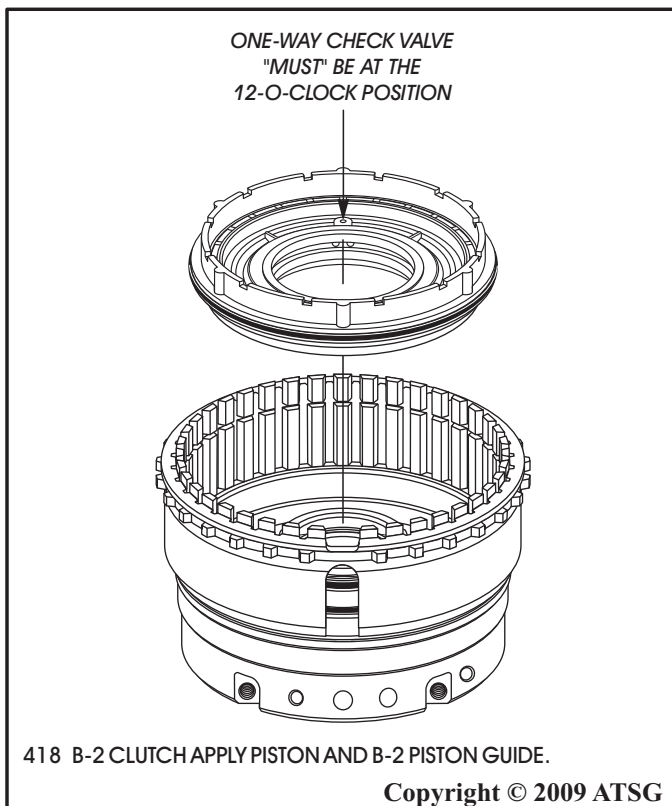

Figure 160
18. Install the B-2 apply piston with B-2 piston guide installed, as shown in Figure 160.
**Note: 1-way check valve must be installed "exactly" at the 12-O'clock position and is shown in Figure 160.**